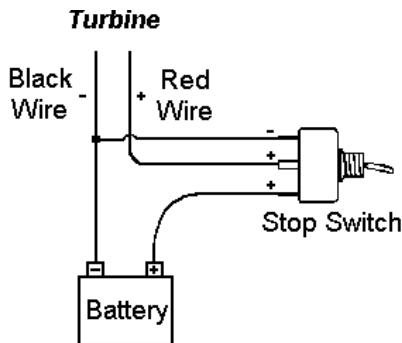

Figure 2 Stop Switch Wiring
- When performing periodic inspections, or at anytime when you must approach the path of the blades, disconnect the power leads from the battery and tie the wind turbine output leads together to stop (*slow down*) the blades from rotating. The turbine can also be shut down through the use of a stop switch. Please refer to Figure 2 on page 13 on how to install a stop switch in your system.
A stop switch must be used with your AIR 403 to provide a convenient method for shutting down the turbine. A 50-amp single-pole double-throw switch will work as a stop switch for most applications. These switches are available from Southwest Windpower and should be wired as shown in Figure 2. The switch disconnects the battery and then shorts the turbine causing the turbine to stop spinning (in high winds the blades will spin slowly). Shorting the turbine will not cause any damage or additional wear. This type of switch should not be used in applications where a code compliant switch is necessary, or for 12V turbines used in very high wind applications.